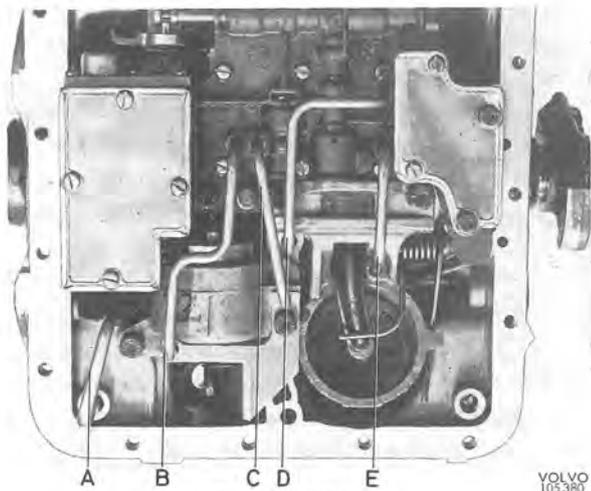

Fig. 4-78. Oil tubes
3. Unscrew the bolts for the oil pan and remove this. Lever out carefully the oil tubes shown in Fig. 4-78.